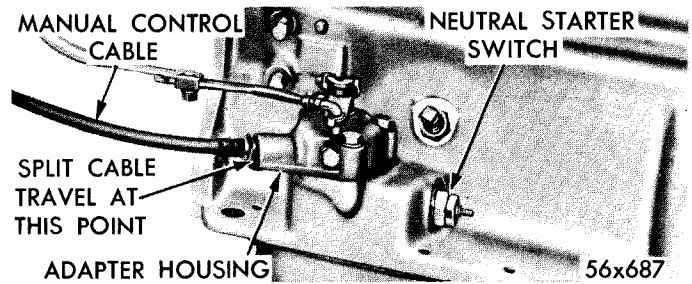
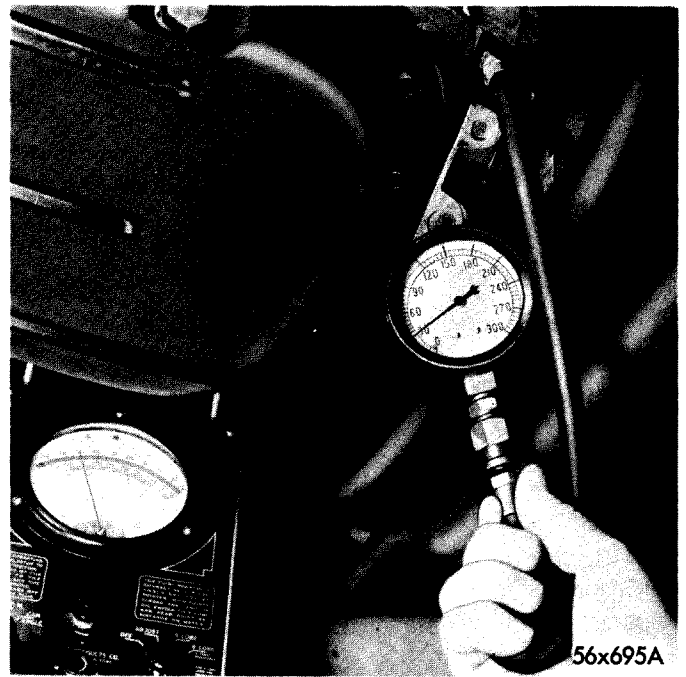

Figure 142—Manual Control Cable Adjustment
Figure 145—Checking Governor Pressure
(R) Reverse button must be depressed and held all the way in during the adjustment. Loosen cable lock clip screw at the transmission, push the cable in until it stops then release the cable. Tighten the cable clip screw, making sure cable housing is not forced in or out during adjustment. See Figure 142.
If line pressure is not correct, it may be adjusted by loosening the lock nut on the adjusting screw. See Figure 142, and turning the adjusting screw clockwise to increase or counterclockwise to decrease line pressure. All line pressure adjustments should fall within the limits specified in the table shown for all push-button positions.
Remove the pipe plug from the governor pressure takeoff hole located on the lower left side of the output shaft support. See Figure 142. Install gauge, Tool C-3292 (100 P.S.I.). If the rear clutch pressure is not correct, investigate the "Service Diagnosis Chart." See Figure 145.